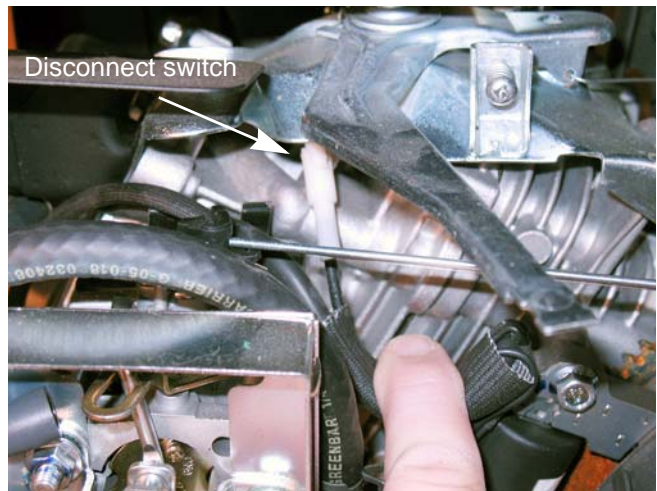

Figure 7.2
3. Disconnect the lead that runs from the module to the stop switch. See Figure 7.2.